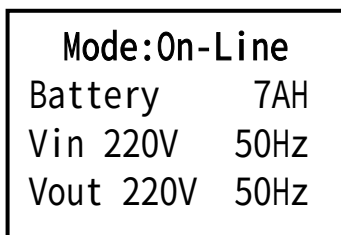

Fig.2 : Basic status interface
- 2) Press any key, it will change to the basic status interface , see Fig2 below